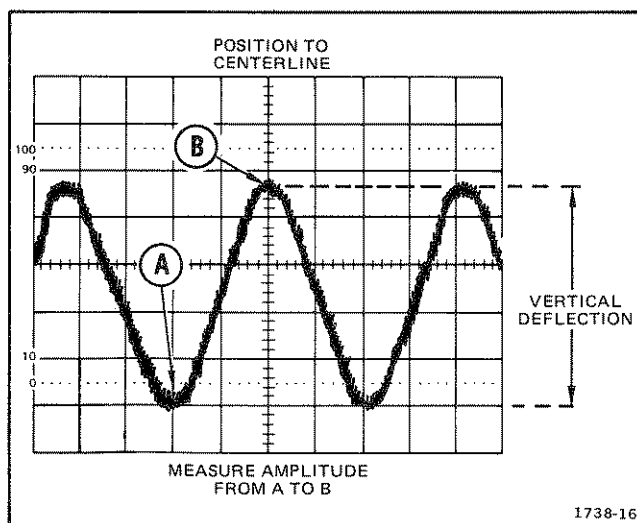

Fig. 4-2. Instantaneous voltage measurement.
9. Measure the divisions of vertical deflection between the ground reference line and the point on the waveform at which the level is to be determined (see Figure 4-2).
EXAMPLE: The measured vertical deflection from the reference line is 4.6 divisions (see Figure 4-2), the waveform point is above the reference line, a 10X attenuator probe is being used, and the VOLTS/DIV switch is set to 2.